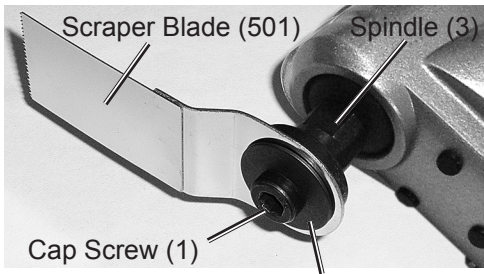

Figure 4 Retainer (2)
Note: When attaching the angled Cutting Blade (502) or Scraper Blade (501), orient the accessory as shown in Figure 4 above, so the Cap Screw (1) will be out of the way when working.